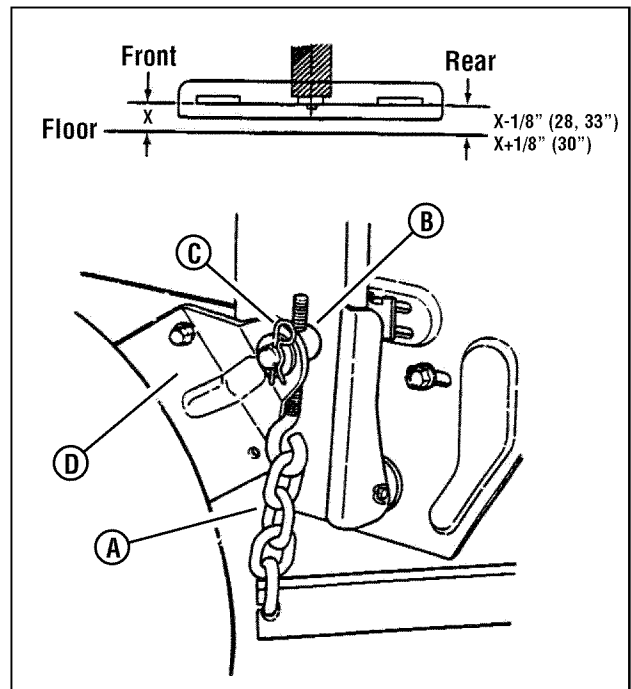

Figure 35: Adjusting the mower deck (front-to-rear)
4. Remove the rear hanger chains (**A, Figure 35**) and allow rear center of the deck to rest on the angle iron.
9. Readjust the rear hanger chain pivots (**B, Figure 35**) to align with the holes in the support brackets (**D**).
With the Rear Engine Rider on a smooth, level surface, rotate the blade until the blade tips are at the front and rear of the deck. Measure the distance from the blade tips to the floor (**Figure 35**). The distance should be the same, or the rear 1/8" to 1/4" lower than the front. If the rear blade tip is higher than the front, or is more than 1/4" lower than the front, proceed with adjustment.
With the Rear Engine Rider on a smooth, level surface, rotate the blade until the blade tips are at the front and rear of the deck. Measure the distance from the blade tips to the floor (**Figure 35**). The distance should be the same, or the rear 1/8" to 1/4" higher than the front. If the rear blade tip is lower than the front, or is more than 1/4" higher than the front, proceed with adjustment.
1. Remove the rear hanger chains (**A, Figure 35**).